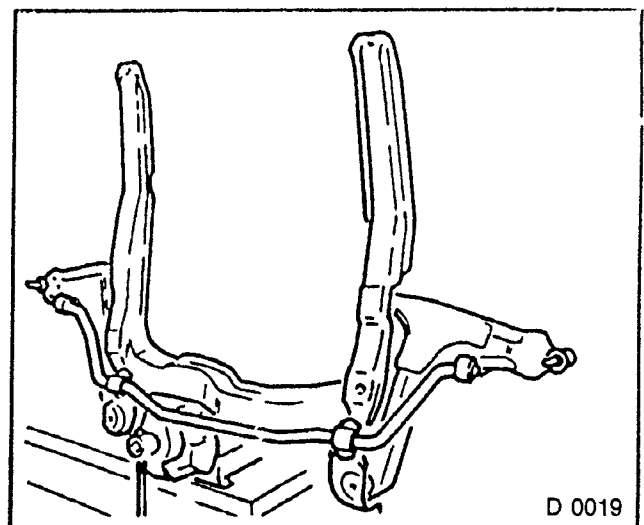

Fig 70
3. Mounting sleeves in rear damping bushing are not applicable when installing. (Fig. 70 shows front axle body with long outrigger).